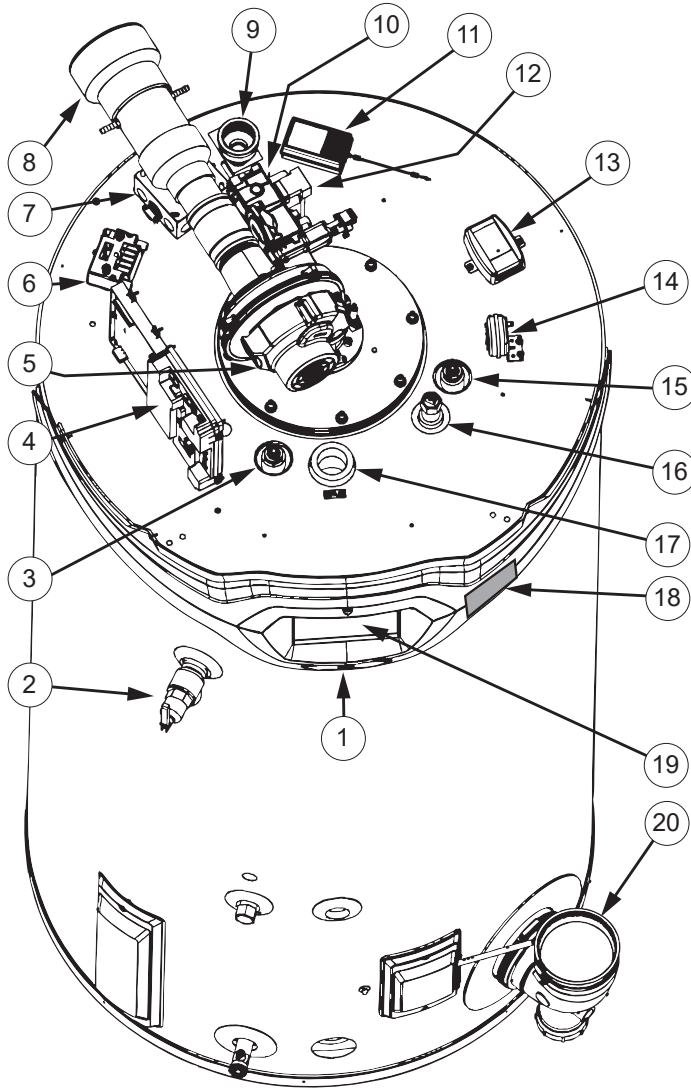
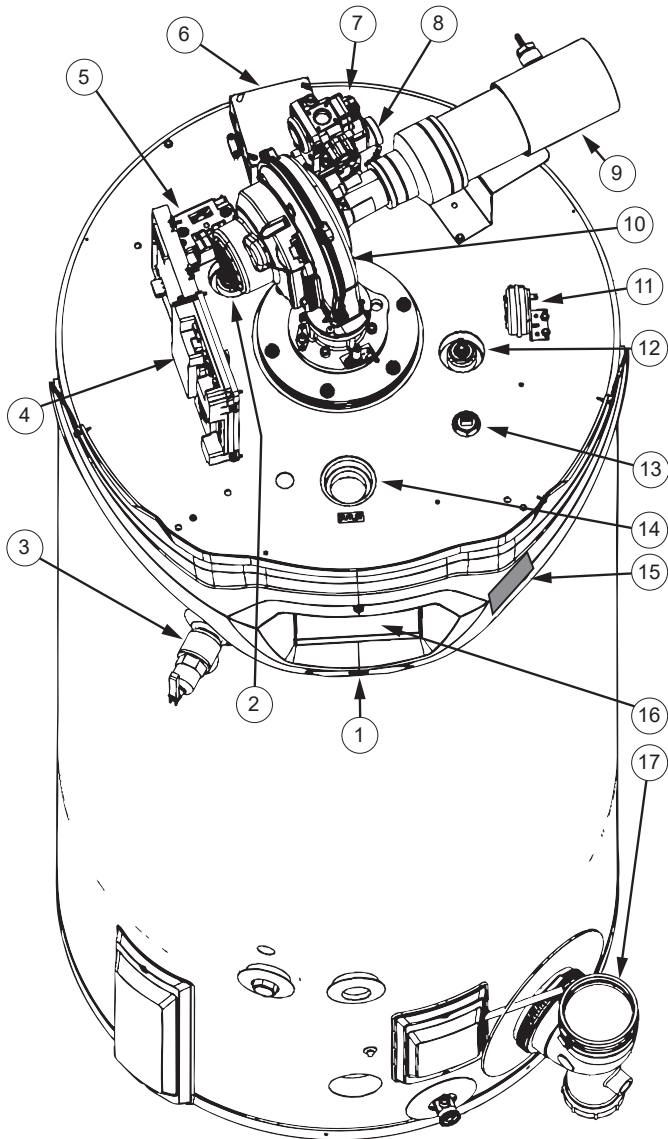
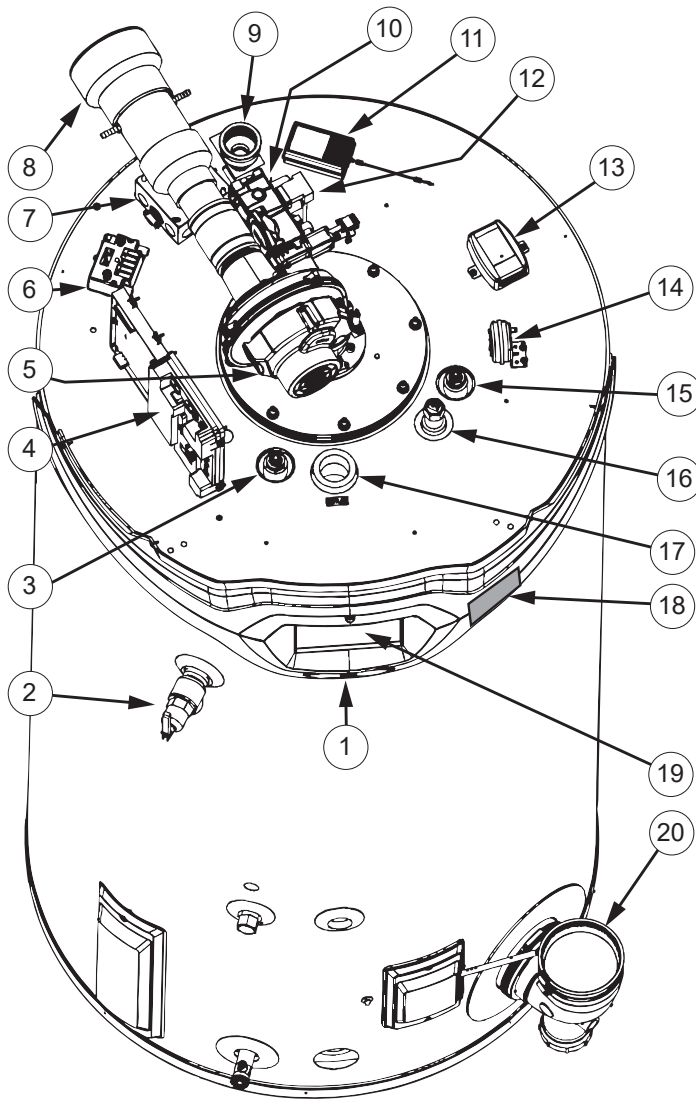

Figure 5. Top View, 60 Gallon
Figure 6. Top View, 100 Gallon
Figure 7. Top View, 119 Gallon
3. **Control boards enclosure.** See *Figure 5*, *Figure 6*, and *Figure 7* (page 12) for description.
1. **Control boards enclosure.** See *Figure 5*, *Figure 6*, and *Figure 7* (page 12) for description.